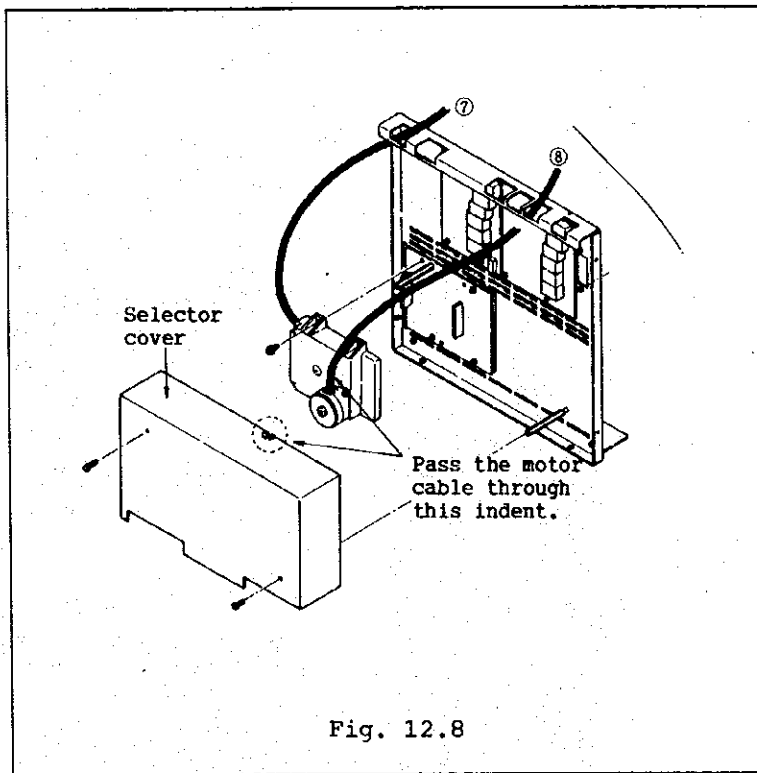

Fig. 12.8
- (3) Pass the motor cables through the indent of the cover and fix the selector cover with the two screws.
- (4) Pass the motor and selector output cables through indents ⑦ and ⑧ shown in Fig. 12.8.